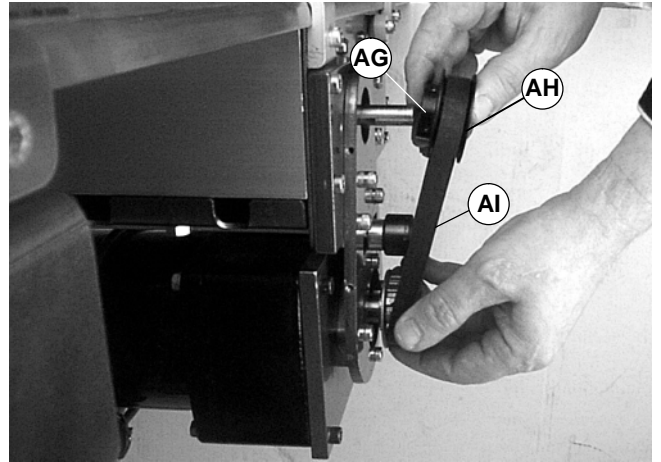

Figure 23
NOTE: If timing belt does not slide over pulley flange, loosen driven pulley set screws (AG of Figure 23) and remove pulley (AH) with belt (AI).